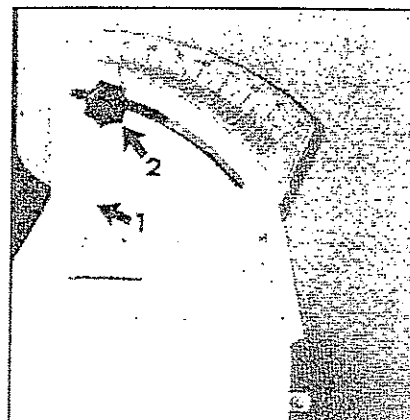

Fig.38
3. **Fertilizer quantity (Fig.38):**
Using the gear change unit, the fertilizer quantity is set. The chart (Fig. 38) shows the setting range from 0-80, whereby the application rate increases with increasing figures.